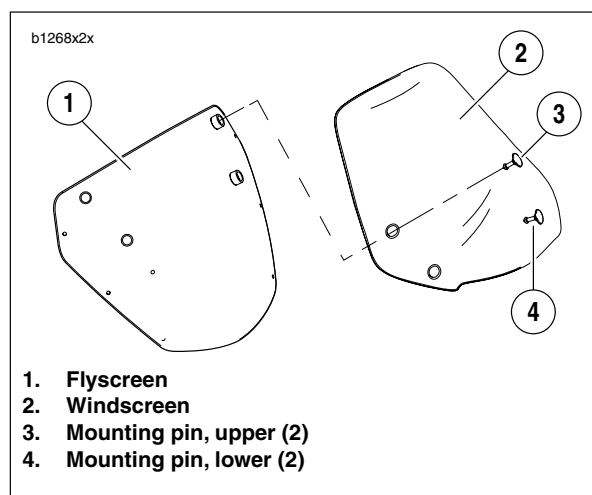

Figure 1. Tall Windscreen Assembly
See Figure 1. Remove the tall windscreen (2) by pulling it loose from the flyscreen (1). Pull sharply at the upper (3) and lower (4) mounting pins to release it from the flyscreen.